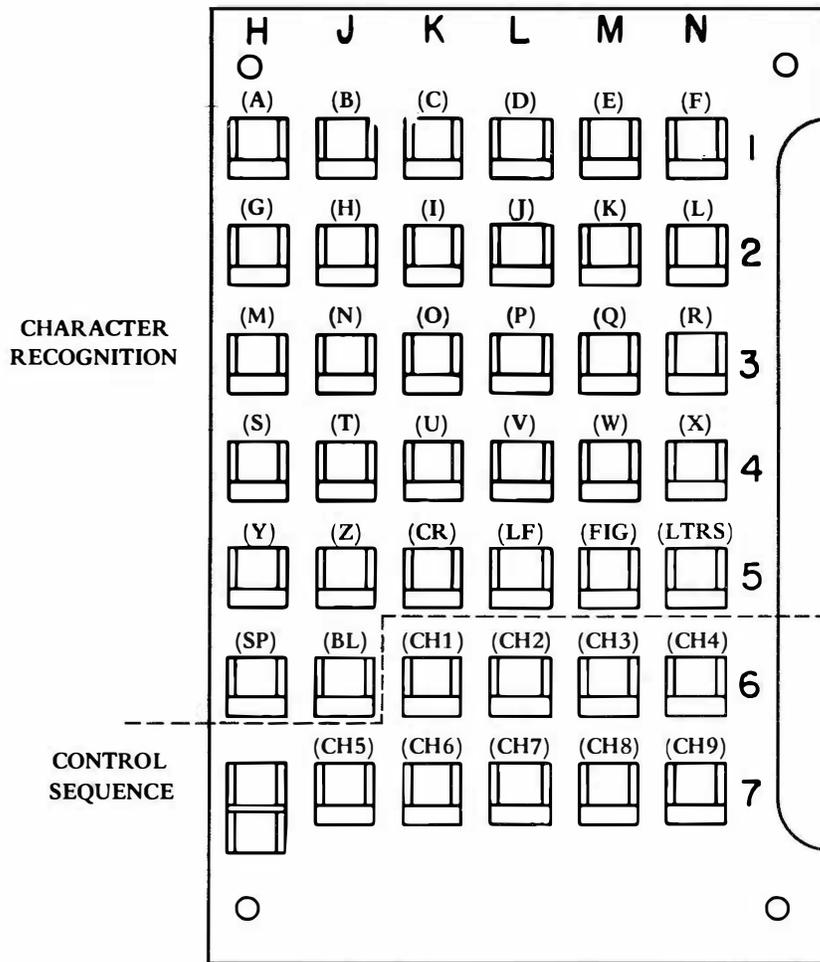
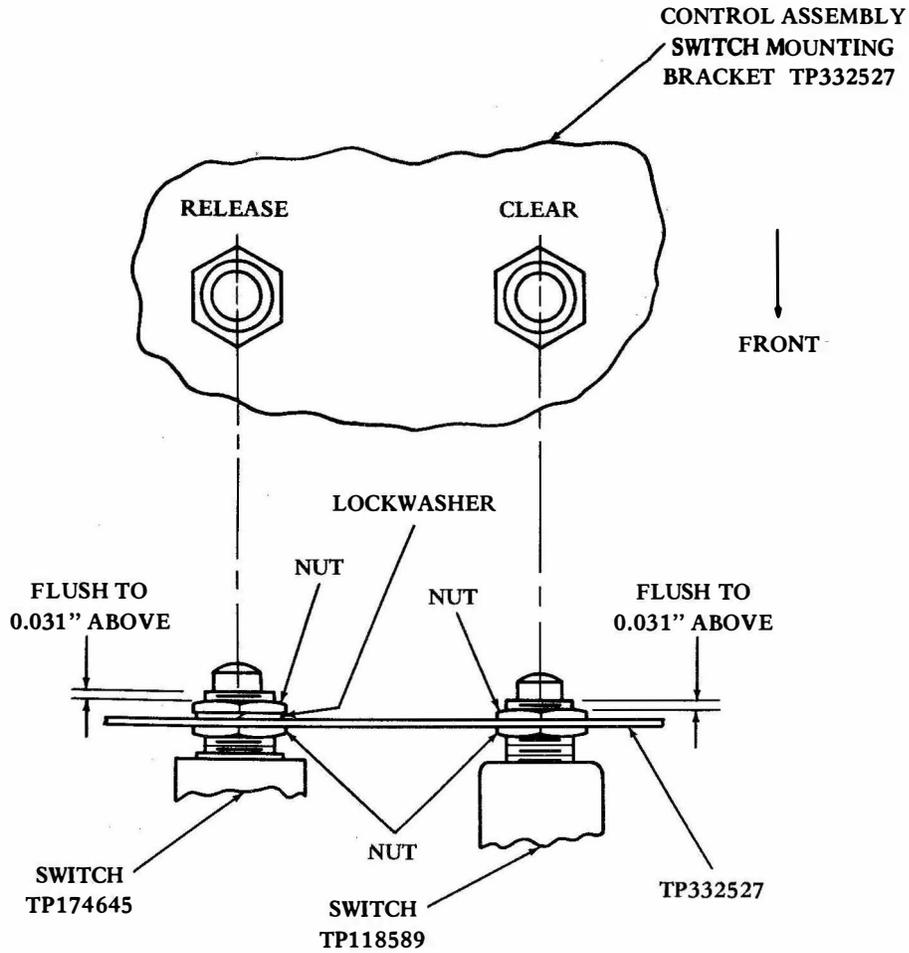

Figure 4 - Terminal Board "A"
Figure 5 - RELEASE and CLEAR Switch Mounting
- 2.14 Terminal Board "A" is strapped by the factory as shown in Figure 4 and Table C.
- 2.15 Should any change in the character sequence be desired, disconnect the lead end in the "TO" column (Table C) and reconnect it to the desired character in the CHARACTER RECOGNITION field ~~(Figure 5)~~ (FIGURE 4).
4.01 If disassembly is necessary, check the requirements of related Figures 5 through 9 before placing the segregator back in service, then operate the segregator through the checkout procedures of paragraphs 3.01 through 3.22.